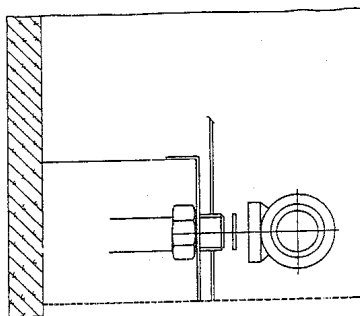

Fig. 17
- 5.5 Screw the pressure relief valve adaptor provided, through the jig bracket into the valve, using the remaining washer (fig. 17)